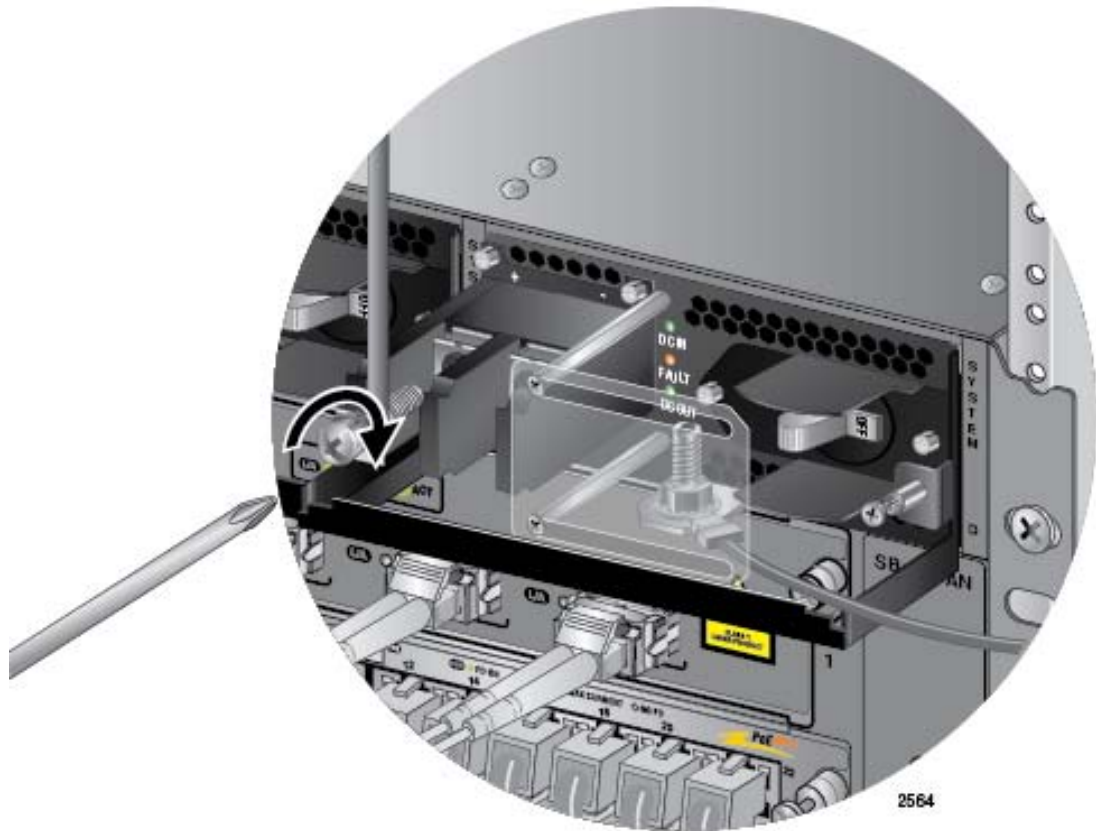

Figure 142. Connecting the Positive Lead Wire
5. Wrap the positive lead wire clockwise around one of the terminal screws and secure the screw and wire to the positive terminal connection on the terminal block with a #3 Phillips-head screwdriver. The positive terminal is on the left. You may attach the wire to the terminal so that it extends either above or below the terminal block. Figure 142 on page 203 shows the wire above the terminal block. Allied Telesis recommends tightening the screw to 30 to 40 inch-lbs.